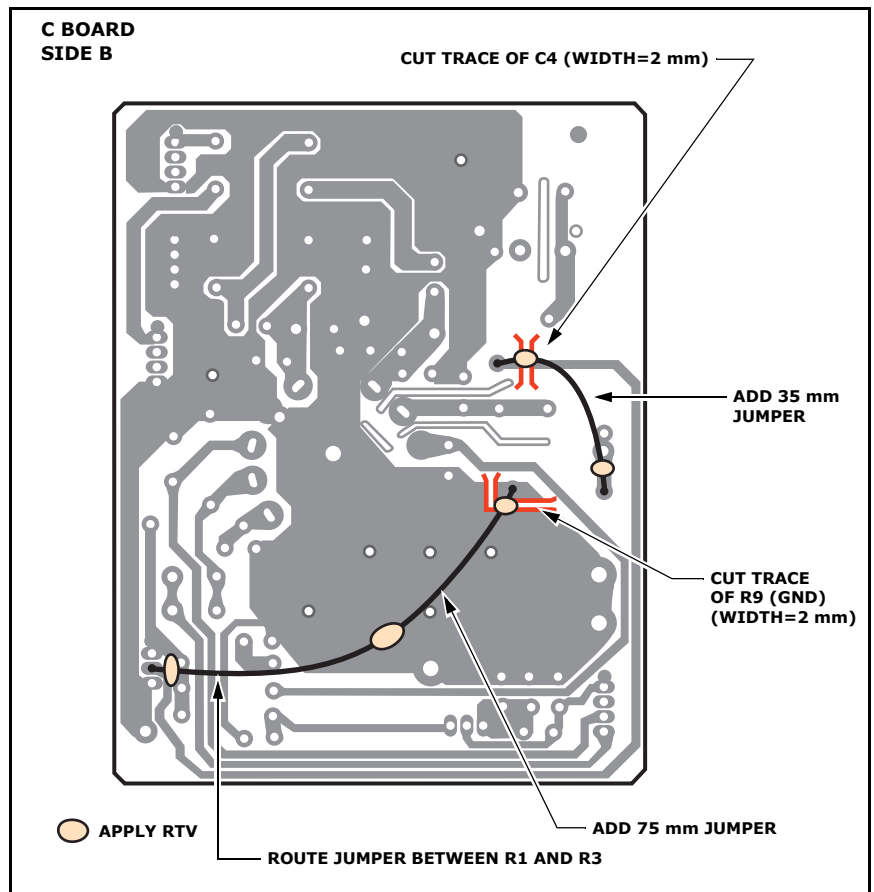

Figure 2
(See Figure 2.)**
3. Cut the trace of R9 (GND) as shown in Figure 2.
4. Cut the trace of C4 leading towards CN3 as shown in Figure 2.